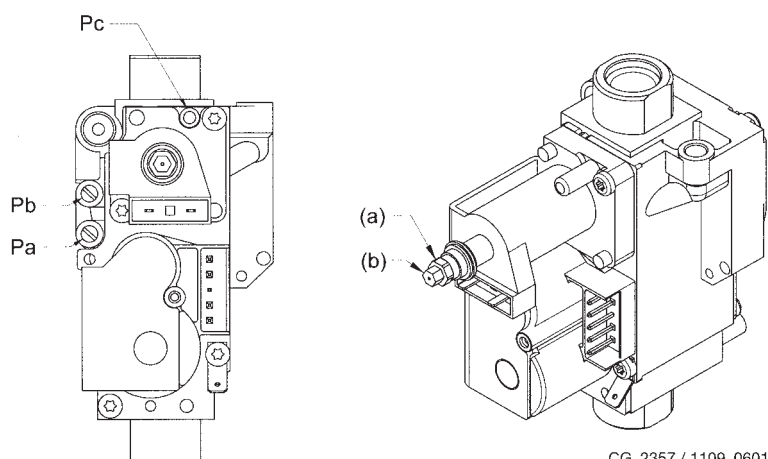

Figure 10
- connect the positive pressure test point of a differential pressure gauge (possibly water-operated) to the gas valve pressure test point (**Pb**) (Figure 10). Only for models with sealed chambers, connect the negative pressure test point of the pressure gauge to a "T" fitting in order to join the boiler adjustment outlet, the gas valve adjustment outlet (**Pc**) and the pressure gauge. (The same measurement can be made by connecting the pressure gauge to the pressure test point (**Pb**) after removing the front panel of the sealed chamber). Measuring burner pressure using methods other than those described could lead to incorrect results as the low pressure created by the fan in the sealed chamber would not be taken into account.
- make sure that the dynamic inlet pressure of the boiler, measured at the gas valve pressure test point (Pa) (Figure 10) is correct (37 mbar for propane or 20 mbar for natural gas).